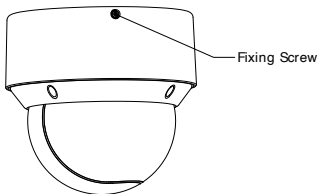

Figure 2-59 Tighten the Fixing Screw
After DE4AxxxI series (IR) PTZ camera is installed, tighten the fixing screw with a screwdriver as shown in Figure 2-59.